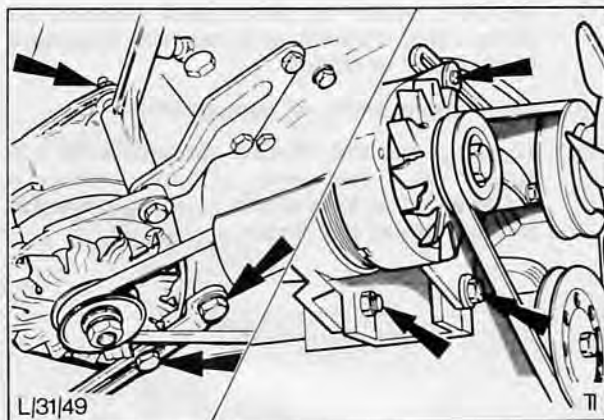

Fig. 14. Alternator securing bolts
4. Slacken alternator mounting bolts, Fig. 14, and tilt alternator towards engine.